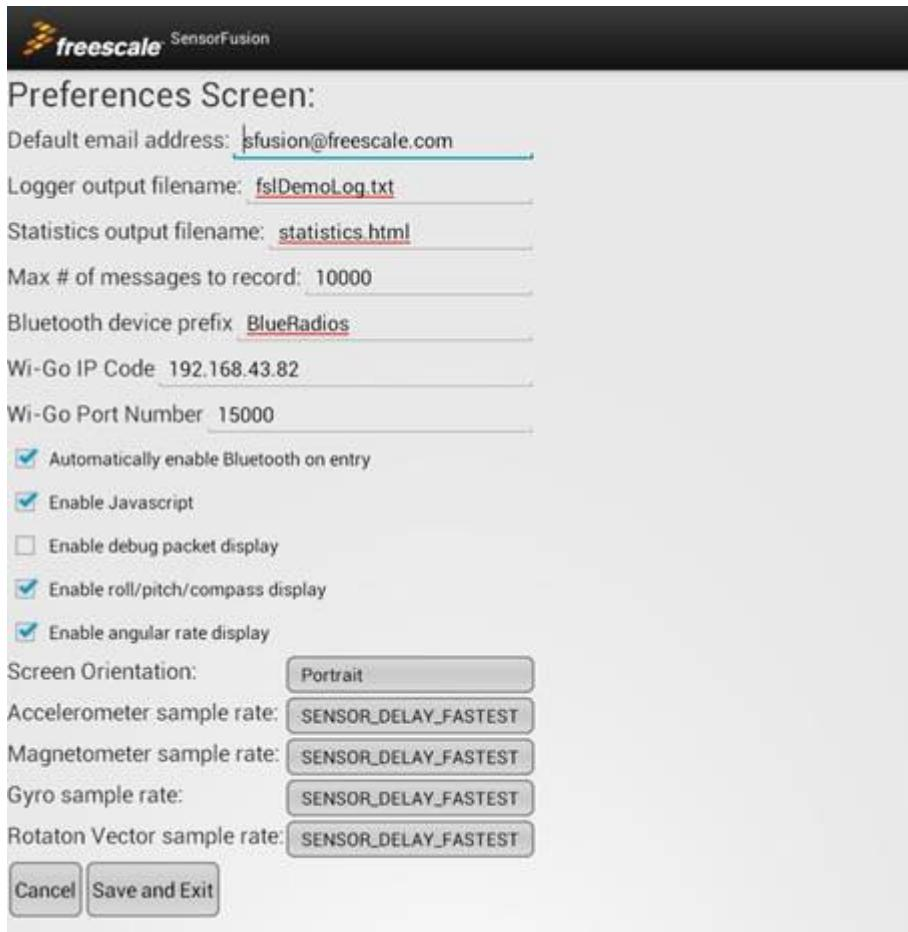

Figure 13. Sensor Fusion preferences window
3. Open the **Preferences Screen**, see Figure 13 and check the **Automatically enable Bluetooth on entry** checkbox. Click **Save and Exit** option and then exit the application.